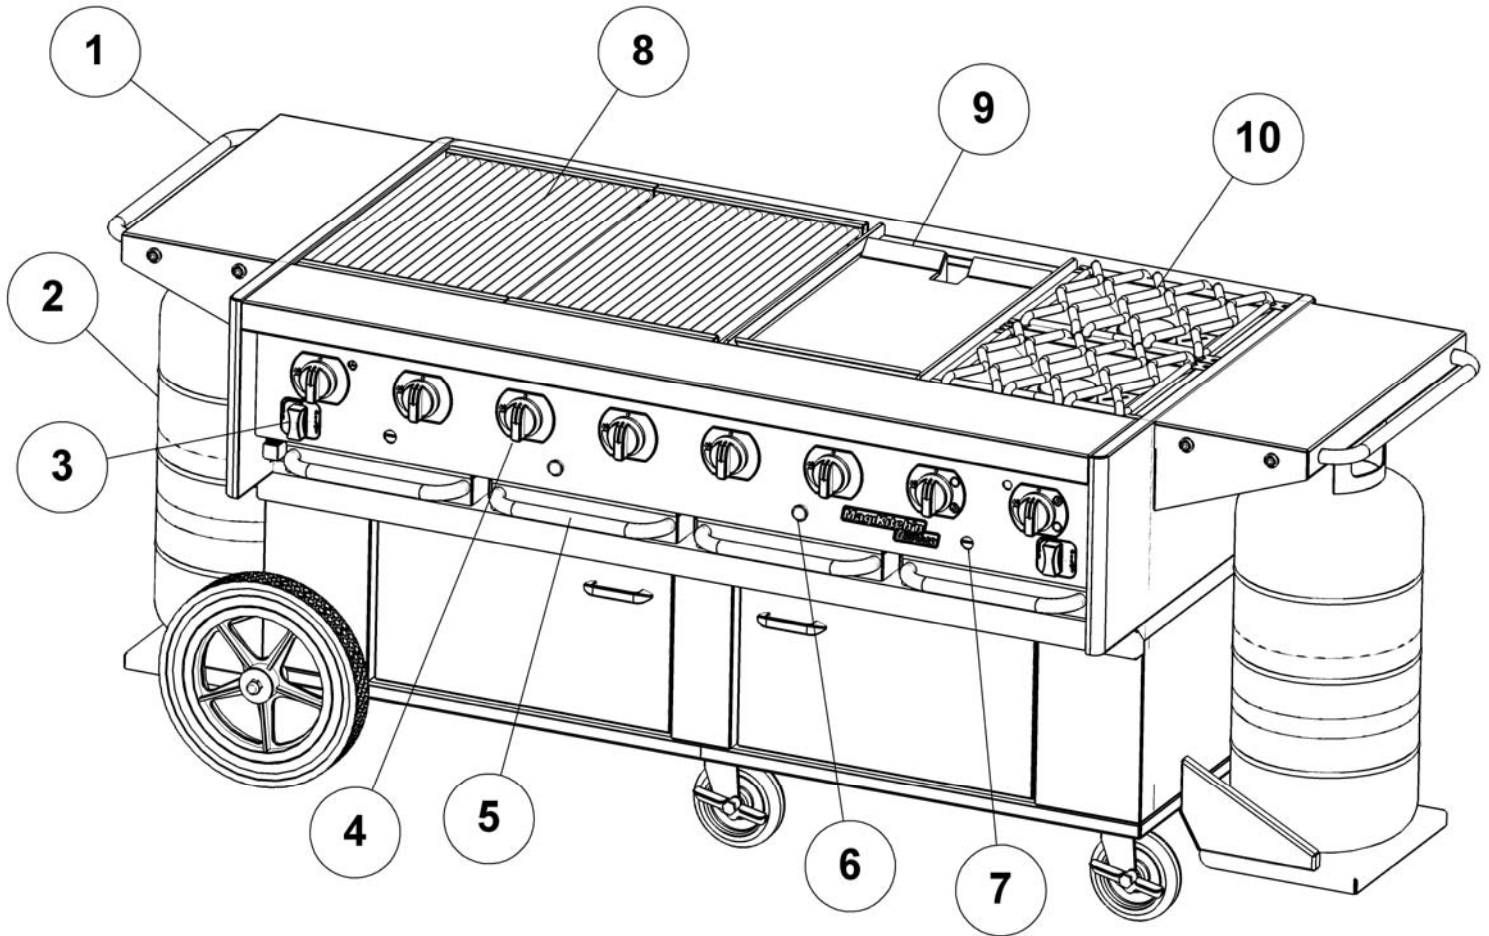

FIGURE 4
The diagram above outlines some of the key operational components of your appliance, see Figure 4.
- D. Verify that the desired side burner (10), See figure 4, is lit. Flame will be visibly emitting from around the entire circumference of the burner if operating properly. If the side burner(s) will not light or stay lit, shut off the gas supply and do not use the unit. Wait 5 minutes before attempting to re-light the unit. After each side burner is lit, the control knob can be changed from Hi to Low as desired, see diagram 1.